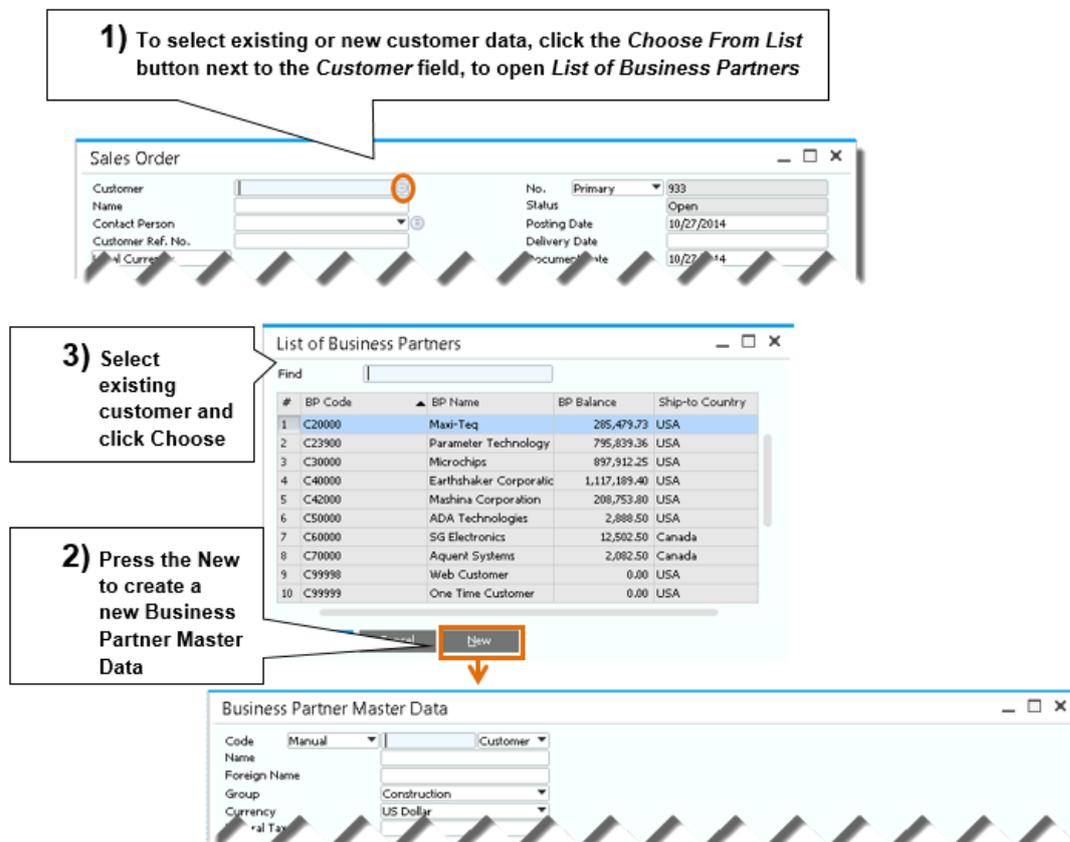

Figure 5-3: Specifying a customer in a sales document
To locate existing customer information, click on the button to the right of the **Customer** field in the document header or press the **T a b** key or the **Choose from List** icon in the **Customer** field. The **List of Business Partners** window appears (see Figure 5-3).
- **Customer** field: See Figure 5-3